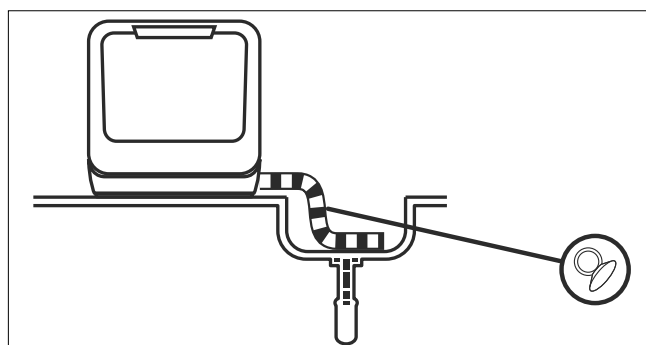
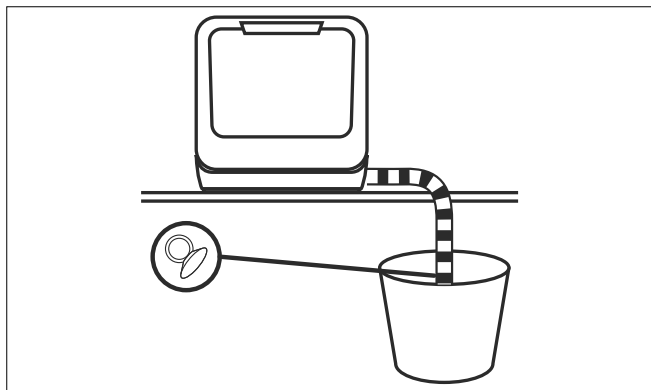

Fig. 10 – Discharging into a sink
Fig. 11 – Discharging into a container
- ▶ Hang the end of the waste water hose in a sink (see Fig. 10) or a sufficiently large container (see Fig. 11).
- ▶ Once you have connected the washing machine to the water supply and drainage, connect the mains plug (24) to a socket.